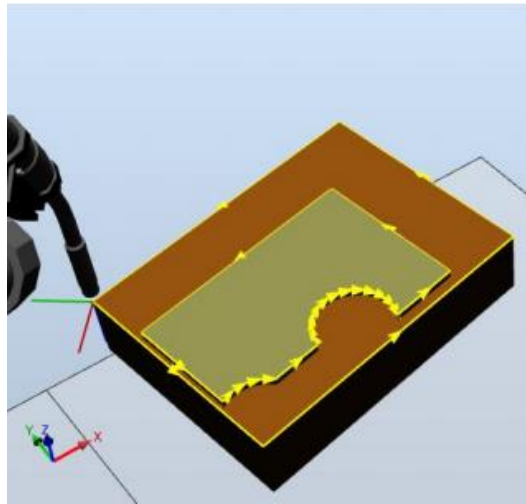

Figure 1. Welding path
- a) **Generate a program that follows the external and the internal part** of the given piece as illustrated in Figure 1.